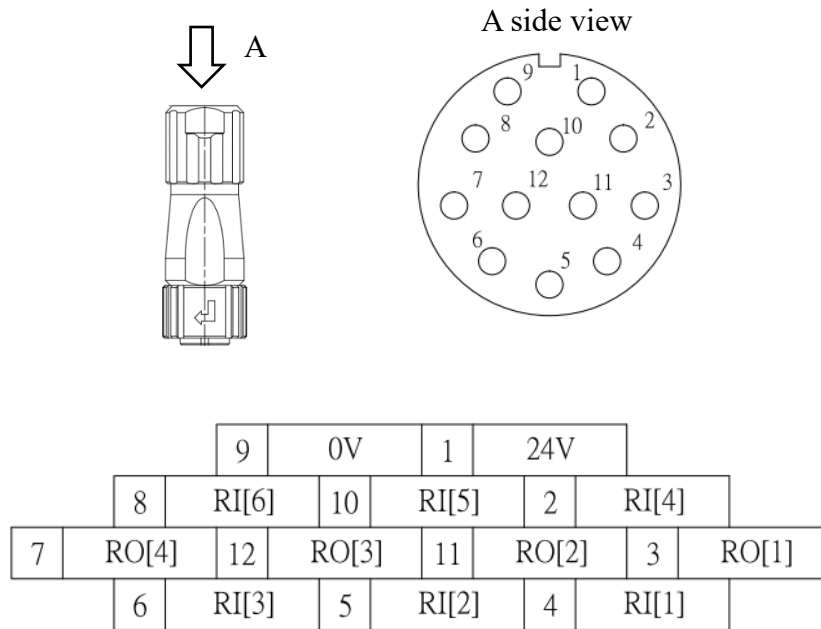
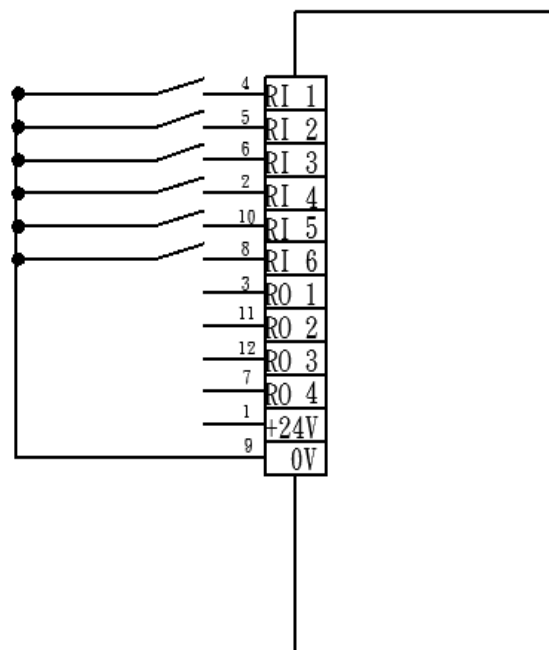
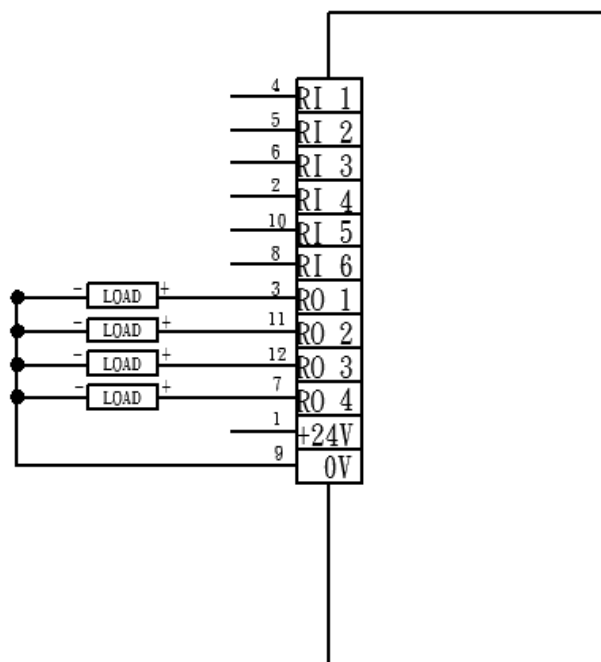
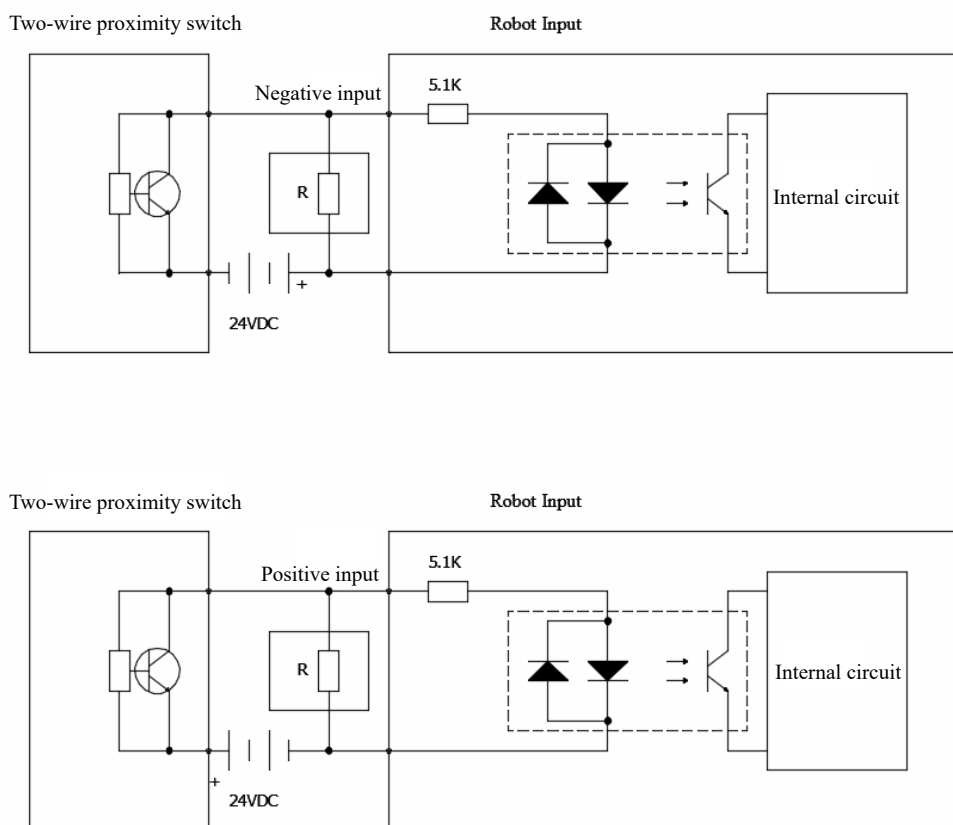

Figure 3-4 Pin assignment of the I/O connector (Power output: 24V/1A)
Figure 3-5 Wiring diagram of input (Standard: Sinking type)
Figure 3-8 Wiring diagram of output (Optional: Sourcing type)
Figure 3-9 Two-wire proximity switch wiring diagram
R-I/O interface for end effector on J5 and the pin assignment of I/O connector are shown in Figure 3-4. Figure 3-5 to Figure 3-8 show the wiring diagram of I/O interface. Figure 3-9 show the two-wire proximity switches connecting method for customers.
- ❖ Two-wire proximity switch may cause Robot Input error action occur due to residual voltage. Therefore, if you want to use two-wire proximity switch, you should connect it according to Figure 3-9 and select the matching R value.